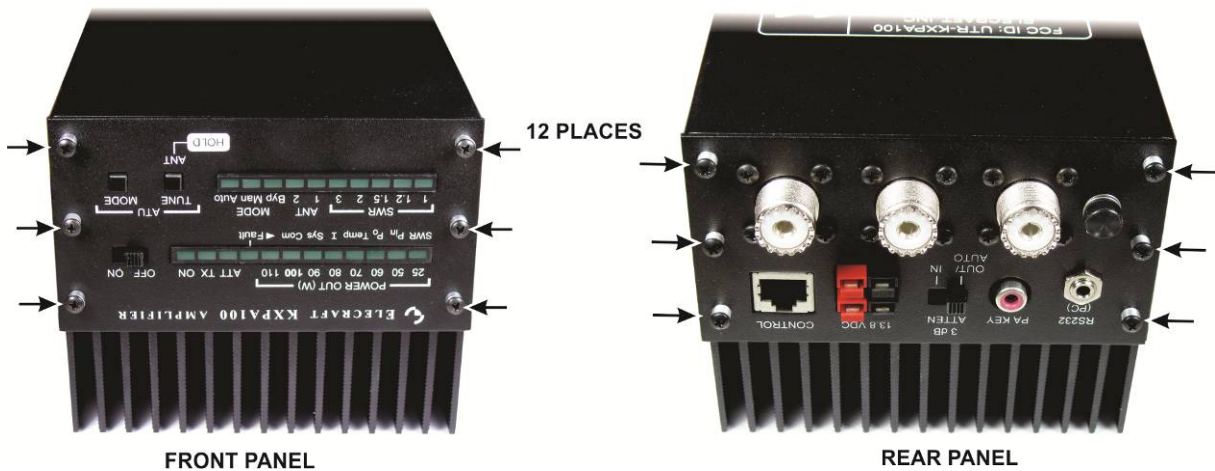
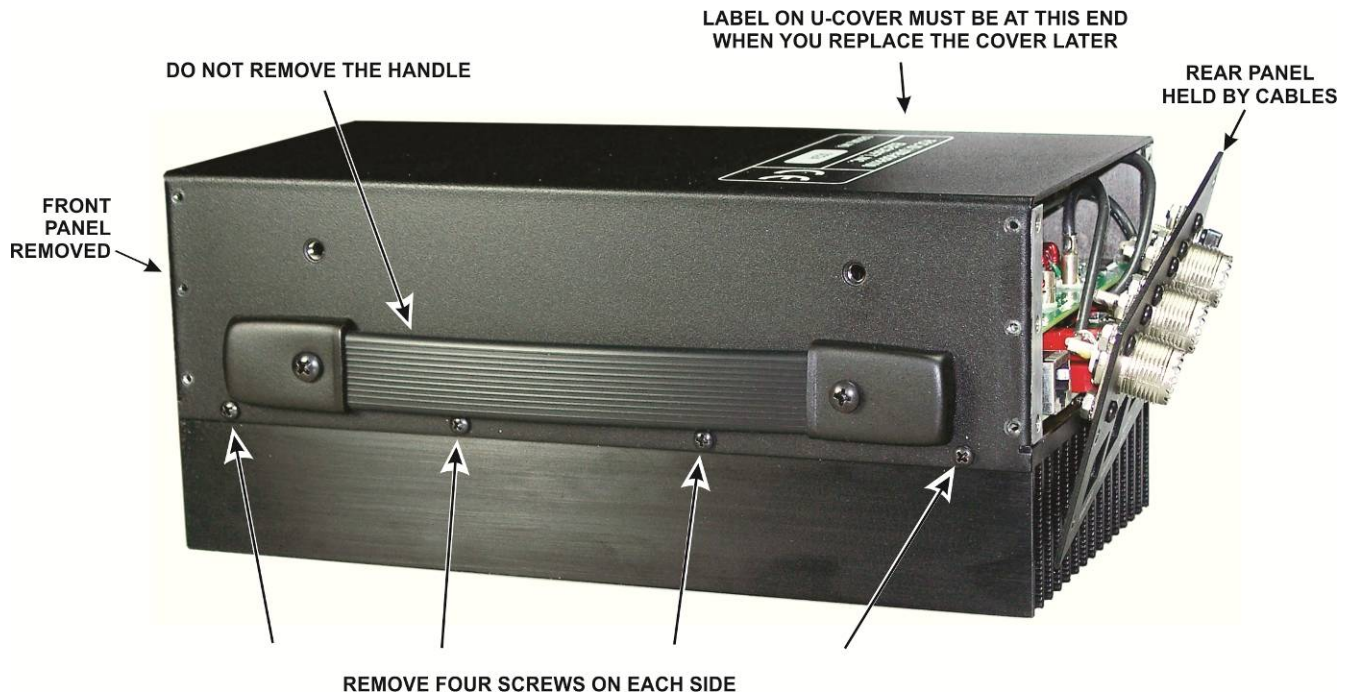

Figure 18. Freeing the Front and Rear Panels.
Figure 19. Removing the Bottom Cover
Remove the six screws, lock washers and spacers to free from the front and rear panels as shown in Figure 18. That will free the front panel. Set it aside in a safe place. The rear panel will be held in place by the wires and cables to the connectors as shown in Figure 19. Do not try to remove it. Let it hang by the wires.
☐ Remove the four screws from each side of the bottom U-cover as shown in Figure 19 and lift it straight up off of the KXPA100.
**When replacing the bottom U-cover in the next step, be sure it is oriented with the lettering toward the rear panel as shown in Figure 19. Reversing the orientation will cause the threaded bushings for the handle to strike the circuit boards.**
- After the ALC adjustment is completed, replace the bottom U-cover so the end with the label nearest the rear panel (the correct orientation is shown in Figure 19).
- Secure the bottom cover with eight screws, four on each side as shown in Figure 19. Do not use lock washers under these screws.